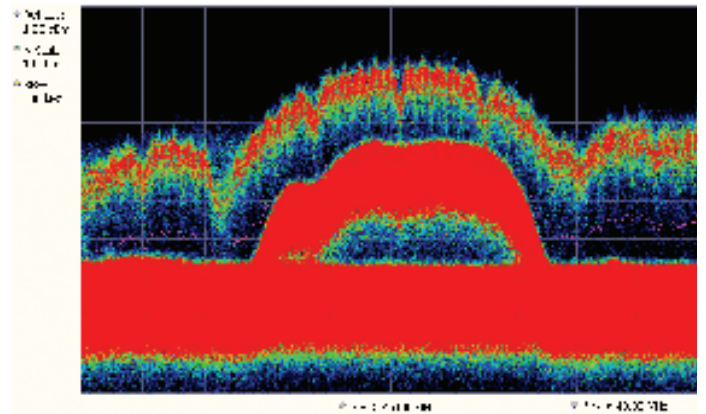

FIGURE 4. The RSA6000 Series shows the laptop transmissions, access point signal and background noise, all in its live-motion bitmap trace.
Compare the display of a traditional swept spectrum analyzer (Figure 3) and that of a real-time spectrum analyzer with a DPX spectrum display (Figure 4). The signal captured is a typical WLAN interchange between a nearby PC and a more-distant network access point (AP). The laptop signal is nearly 30 dB stronger than the AP's signal because it is closer to the measuring antenna.
The DPX spectrum display, Figure 4, reveals much more insight on the same signal. Since it is a bitmap image instead of a line trace, you can distinguish many different signals occurring within each update period and/or different version of the same signal varying over time. The heavy band running straight across the lower third of the graph is the noise background when neither the laptop nor the AP is transmitting. The red lump of energy in the middle is the ON shape of the AP signal. Finally, the more delicate spectrum above the others is the laptop transmissions. In the color scheme used for this demonstration (“Temperature”), the hot red color indicates a signal that is much more frequent than signals shown in cooler colors. The laptop signal, in yellow, green and blue, has higher amplitude but doesn't occur nearly as often as the AP transmissions because the laptop was downloading a file when this screen capture was taken.